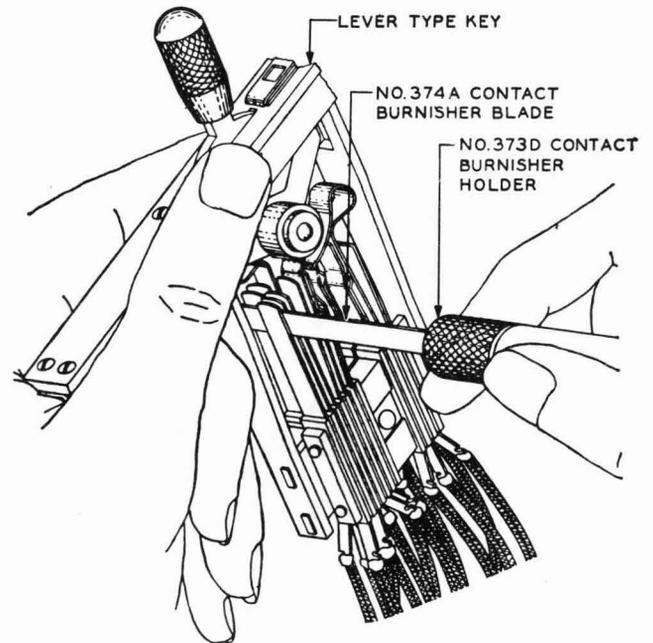

Fig. 1—Method of Burnishing Contacts of Lever-type Keys
- 4.04 To clean contacts, burnish them using the No. 373D contact burnisher holder and the Nos. 374A, 374B, or 374C contact burnisher blades. Typical examples of methods of burnishing contacts are shown in Figs. 1 and 2.